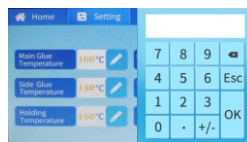

Figure 10
7.1.1 When the user clicks on the parameter setting in the menu bar, the screen will switch to the parameter setting interface. When displays the parameters that can be set, mainly including the main glue temperature, side glue temperature, cover clamp platform height, clamping time and clamping pressure, as shown in Figure 10